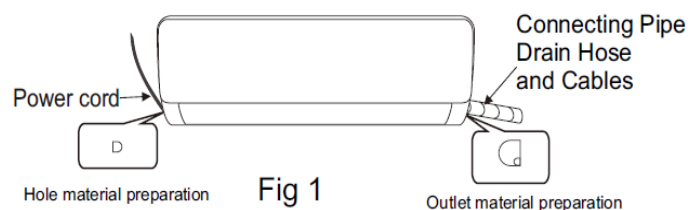

Fig 1
1. Depending on the position of the unit, the piping may be routed sideways from the left or the right (Fig 1), or vertically from the back(Fig 2)(depending on the pipe length of the indoor unit). In the case of sideways routing, cut off the outlet cutting stock of the opposite side.